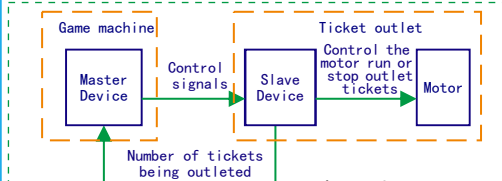

Figure 2
- 3.The relationship of the Master inputting control signal, the Slave outputting signal, and motor status is shown in Figure 3. The workflow is shown in Figure 2.